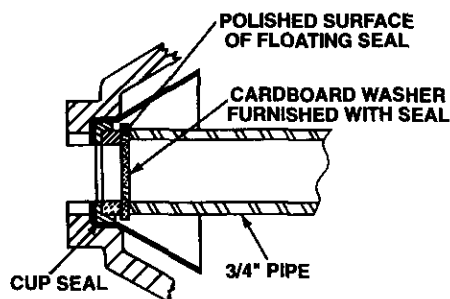

Figure 7
- C. With finger pressure, press firmly and squarely into cavity. Polished face of seat faces inside of pump. If seat will not locate properly, place cardboard washer over polished face and use piece of 3/4" standard pipe for pressing purposes. See Figure 7.